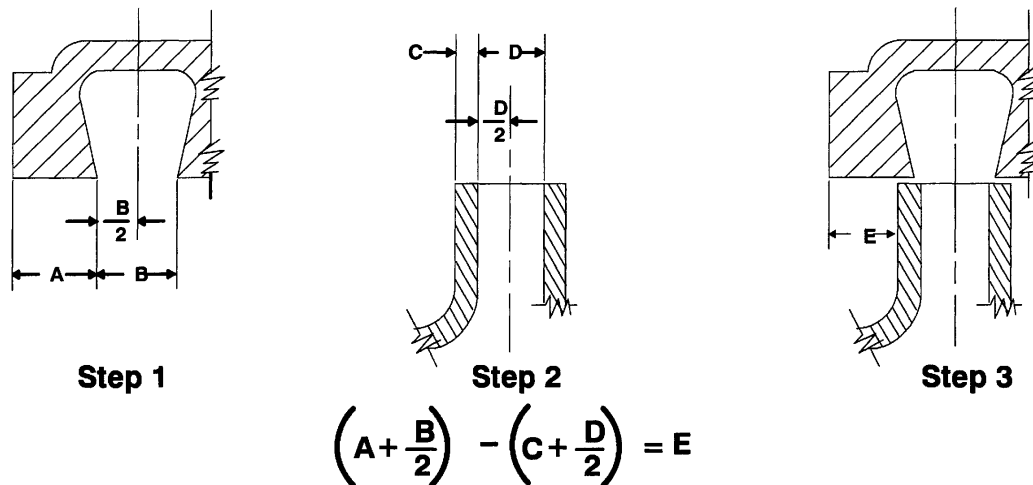

Figure 5. Centering Impeller Within Pump Casing
For maximum pump efficiency, the impeller must be centered within the volute scroll. To verify impeller positioning, measure the pump casing and impeller as shown in Figure 5. Use these measurements to calculate the required impeller location (dimension E). Add or remove impeller adjusting shims (55) to obtain dimension E.